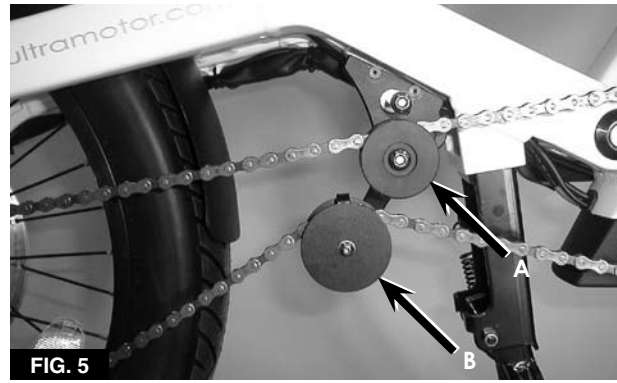

FIG. 5
b. Stand behind the derailleur, and check the position of the guide pulley. The pulley should align with the smallest cog as shown in **Figure 5**.
1. Shift the derailleur and move the chain to the smallest cog (high gear). Note how the chain passes over the upper idler (A, **Figure 5**) and through the lower idler (B). The chain must be routed along the same path during installation.